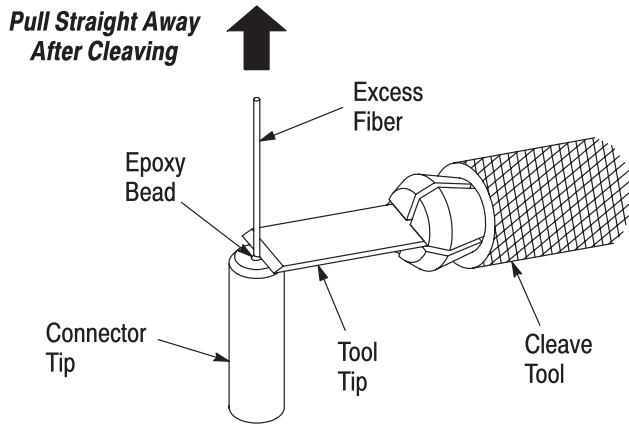

Figure 6
4. Place the cleave tool directly above the epoxy. See Figure 6. Lightly draw the beveled edge across the fiber parallel to the tip of the connector.